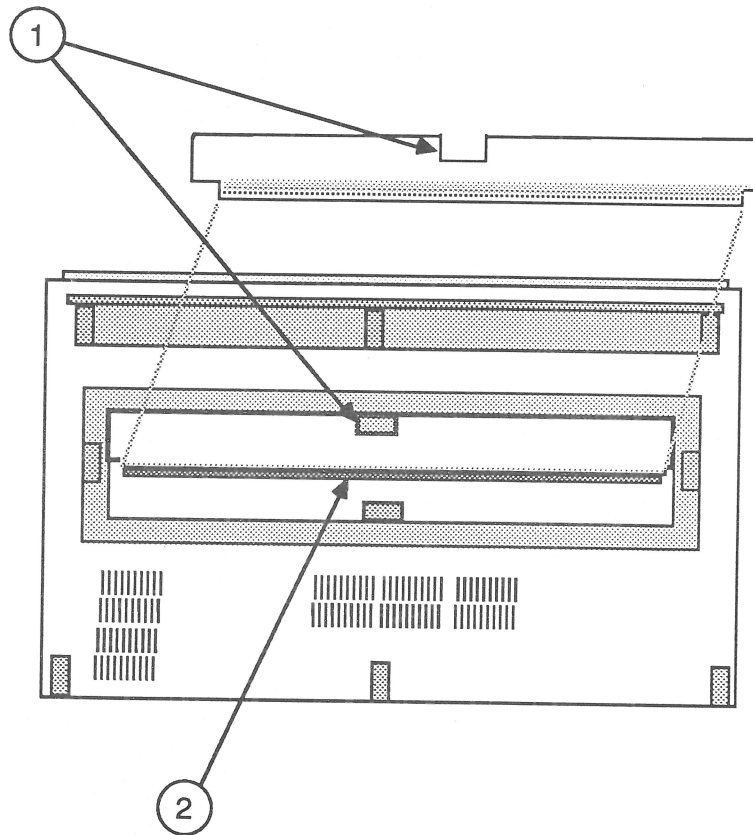

FIGURE 24
2. Position the Mylar so the notch fits securely around the rubber foot. The Mylar has to fold over into the slot for the paper feed (Figure 24, #1).
3. Smooth the Mylar onto the case and into the slot (Figure 24, #2) for the bottom paper feed.